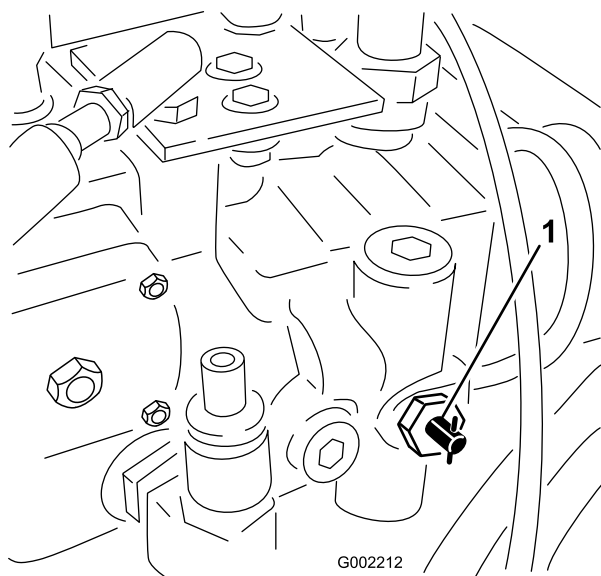

Figure 26
1. Rotate the tow valve (Figure 26) 90 degrees in either direction to open it.